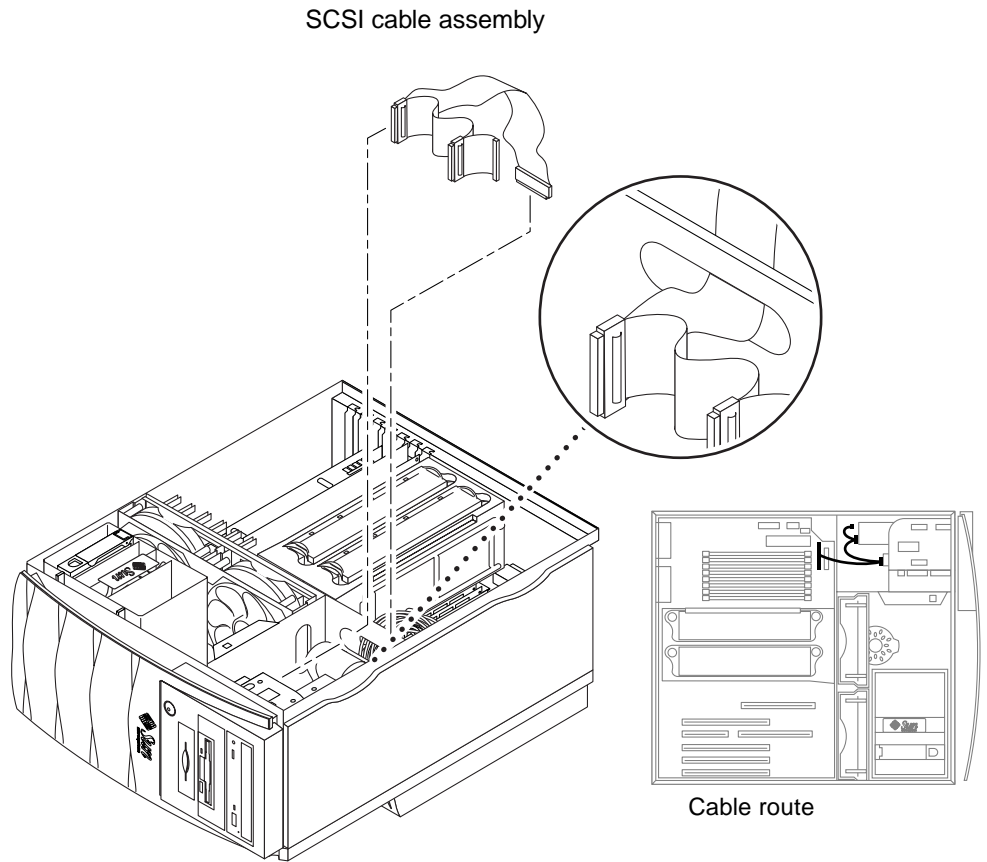

FIGURE 6-7 Removing and Replacing the SCSI Cable Assembly
- 2. Disconnect the SCSI cable assembly as follows (FIGURE 6-7):**
1. **Connect the SCSI cable assembly as follows (FIGURE 6-7):**